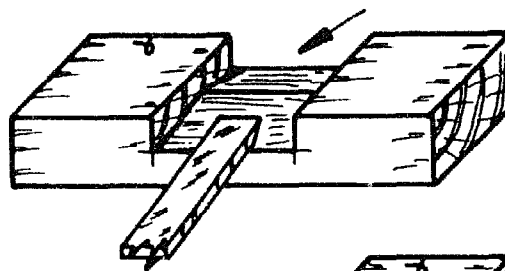

Fig. 8
- Chisel out the waste, chiselling halfway through from both edges (Figs. 8 & 9).